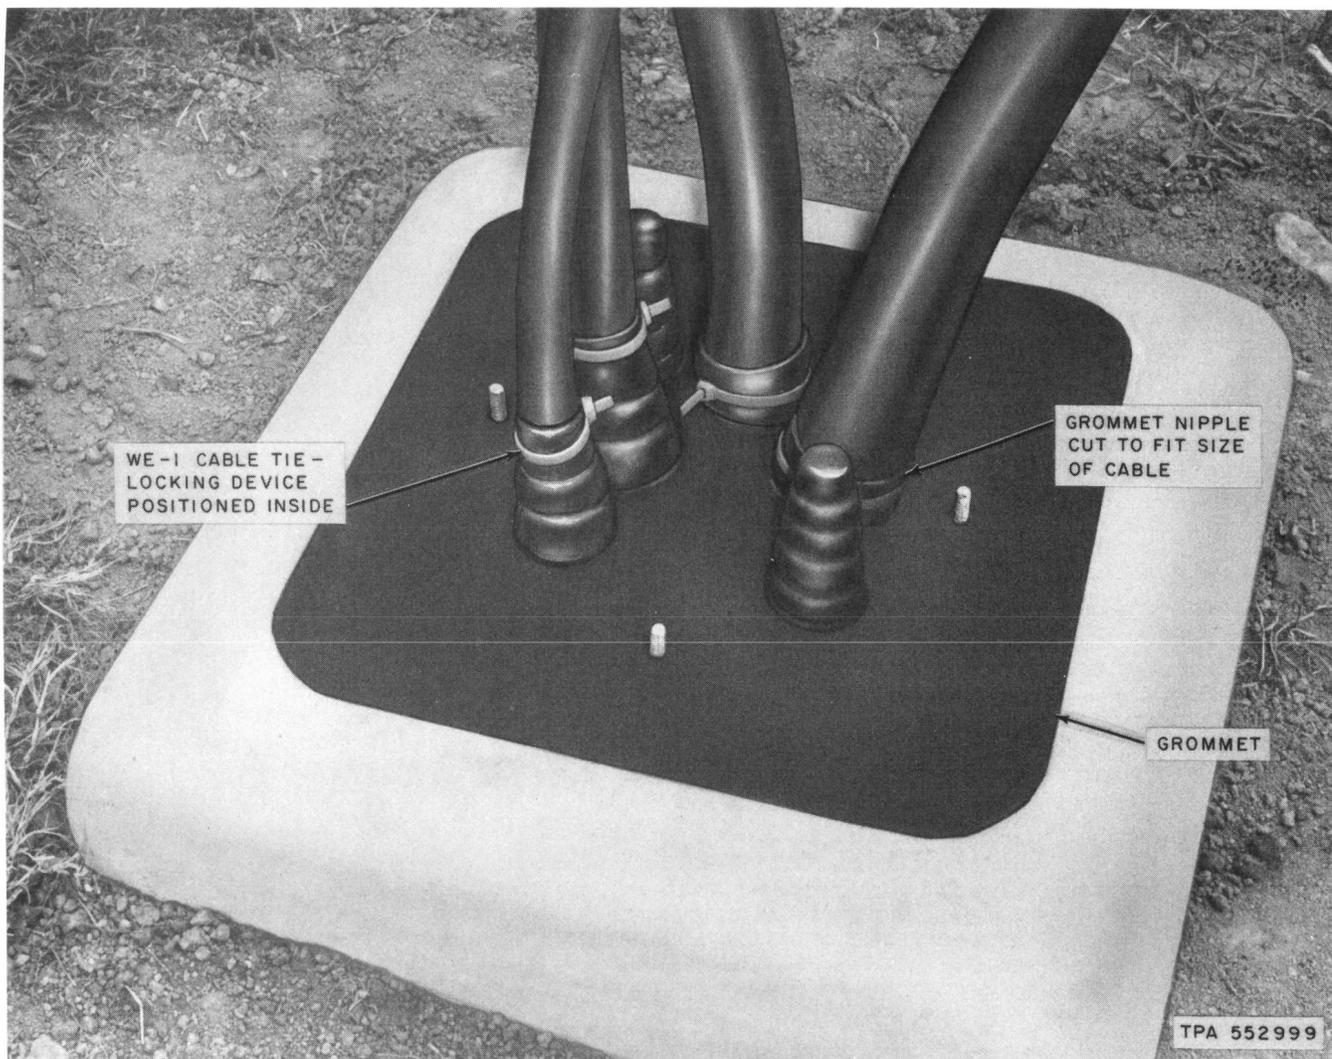

Fig. 7—Installed Grommet
4.08 Cut the appropriate grommet nipples to fit the cables, lubricate cables, then slide the grommet over the cables and over the bolts protruding from the concrete foundation (Fig. 7). Place WE-1 cable tie around nipples and cable as shown in Fig. 7. Locking device of cable tie should be positioned inside so as not to interfere with frame placement.